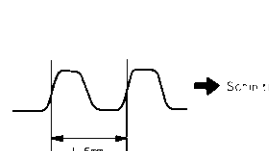
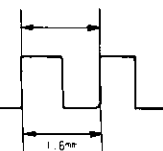

Fig. 6-1-2
Fig. 6-1-3
The end sensor is mounted at a position R49mm from the spindle. When the left edge of the shutter slits reaches that position, the stylus tip will be at the R62.5mm position. That is, there is 20mm between the 62.5mm position and the point of entry into the detection range. Once the detection range is entered, the sensor commences to generate output signals with a waveform like that shown in Fig. 6-1-2 above. This output is applied to the Schmitt trigger circuit composed of 2 inverters in IC16 where it is rectified into the square wave as shown in Fig. 6-1-3. This output is then differentiated by C39/R61 and applied to pin (5) of IC14, while another portion of the same output is integrated by R62/C40 and applied to the monostable multivibrator composed of 2 NOR gates in IC18, resulting in the generation of a 1.06 ± 0.1 sec H level signal. (TP5). Although this signal is applied to pin (6) of IC14, there is no detection by pin (5) because of the delay by the integration circuit. If, however, the next differential pulse is applied to pin (5) of IC14 while the H level signal is being generated at TP5, that pulse will be detected. Apart from this case, there is no detection because the differential pulse involves a slight delay before switching TP5